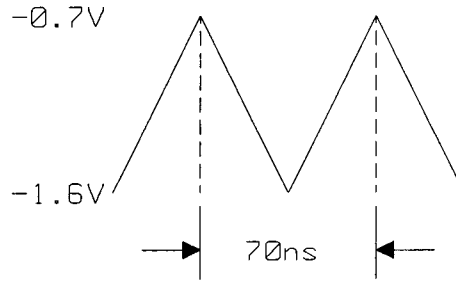

Figure 10.3-9. Period Generator ramp signal pin 20
- Check the ramp signal at pin 20 of U200 against Figure 10.3-9.